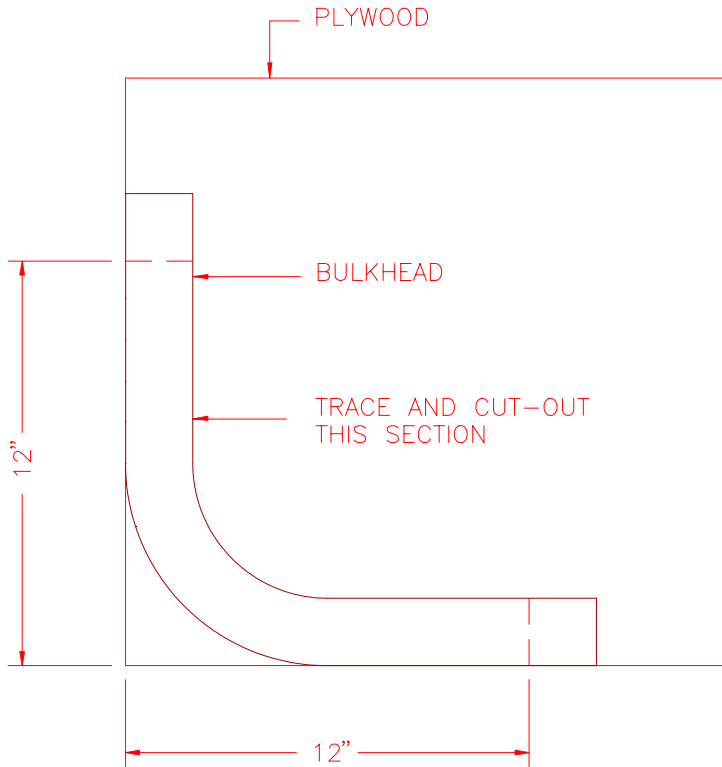

Figure 9.12.1
- 8) Trace the outline of a round Bulkhead section on a piece of 1/2" or thicker plywood. Figure 9.12.1.